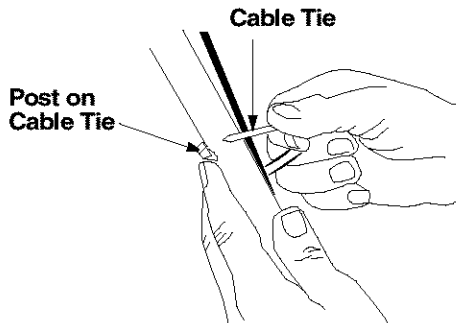

Figure 6
- Insert post of cable ties that are on lower handle into the holes provided on the lower handle. The holes may be on the inside or outside. Pull cable ties tight and cut off the extra. See Figure 6 .